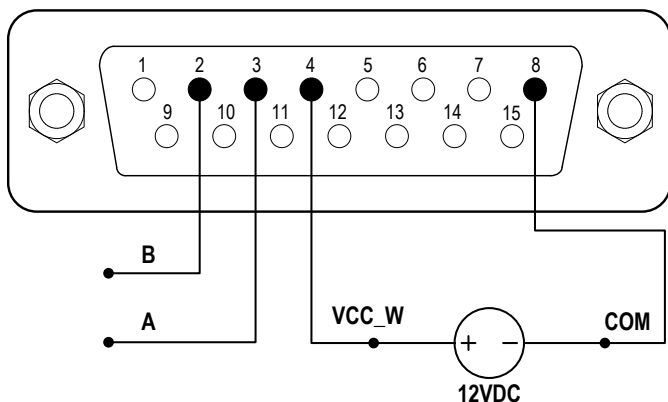

Figure 43. RS485 MODBUS Wiring
- 1) Turn the power off. Wire the DB15 connector as shown on Figure 43, and connect it to the DB15 port on the rear of the pump. External DC power source is recommend to avoid electrical interference.